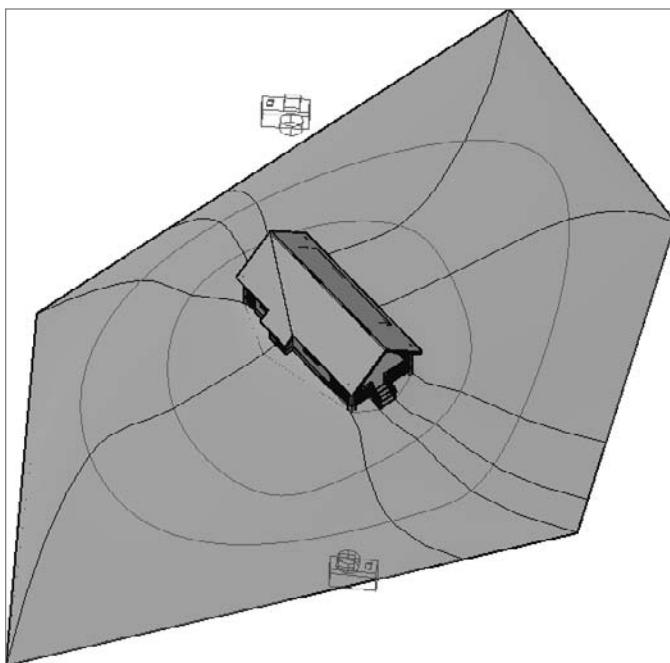

FIGURE 17.8 Viewing the cabin and cameras from above and to the southeast
6. Use the ViewCube to change the current view to a viewpoint from the southeast and slightly above the cabin (see Figure 17.8).